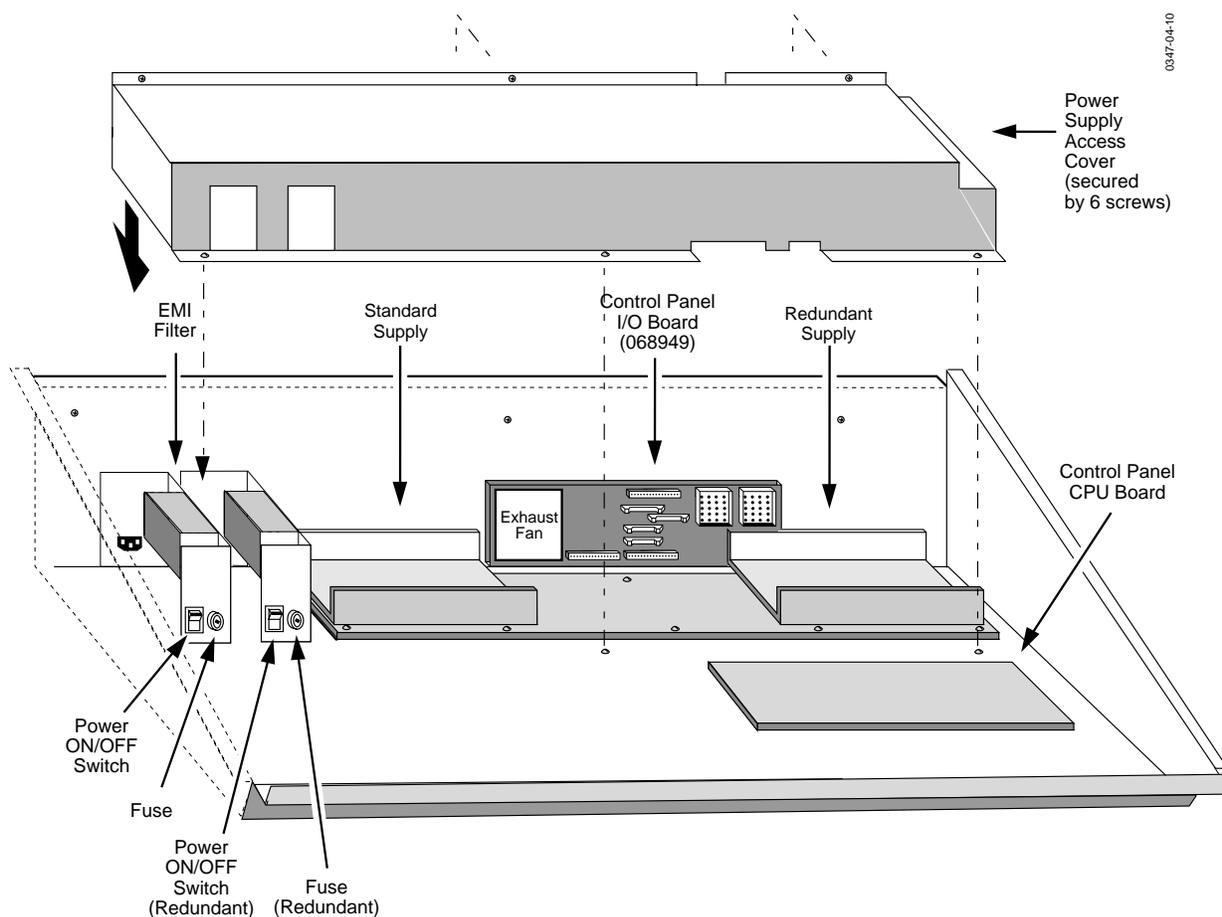

Figure 4-11. Model 3000-2 Control Panel Power Standard Supply Removal.
4. Disconnect the AC input and DC output wiring from the supply to be removed. See Figure 4-11